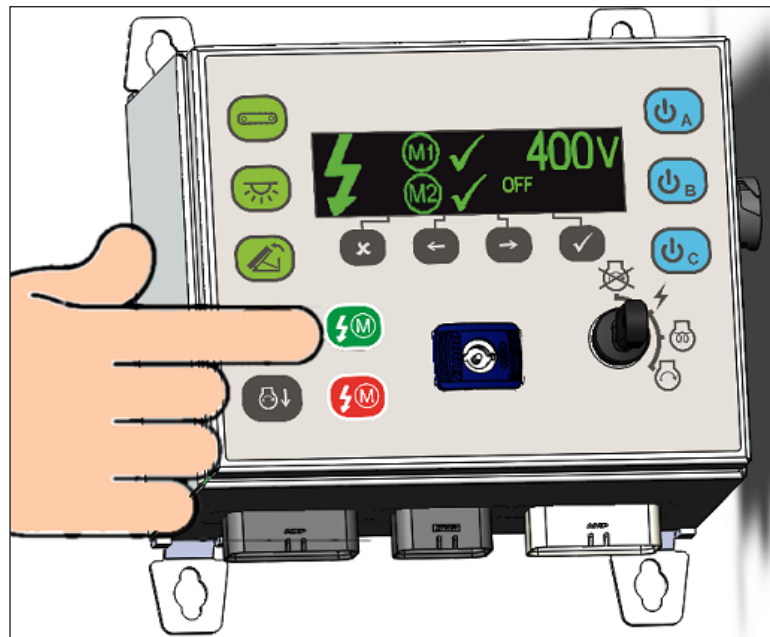

Figure 4.10 - Electric Motor Start
5. If AC power is present and operator wishes to run machine using AC power, press the green motor start button, see Figure 4.10.